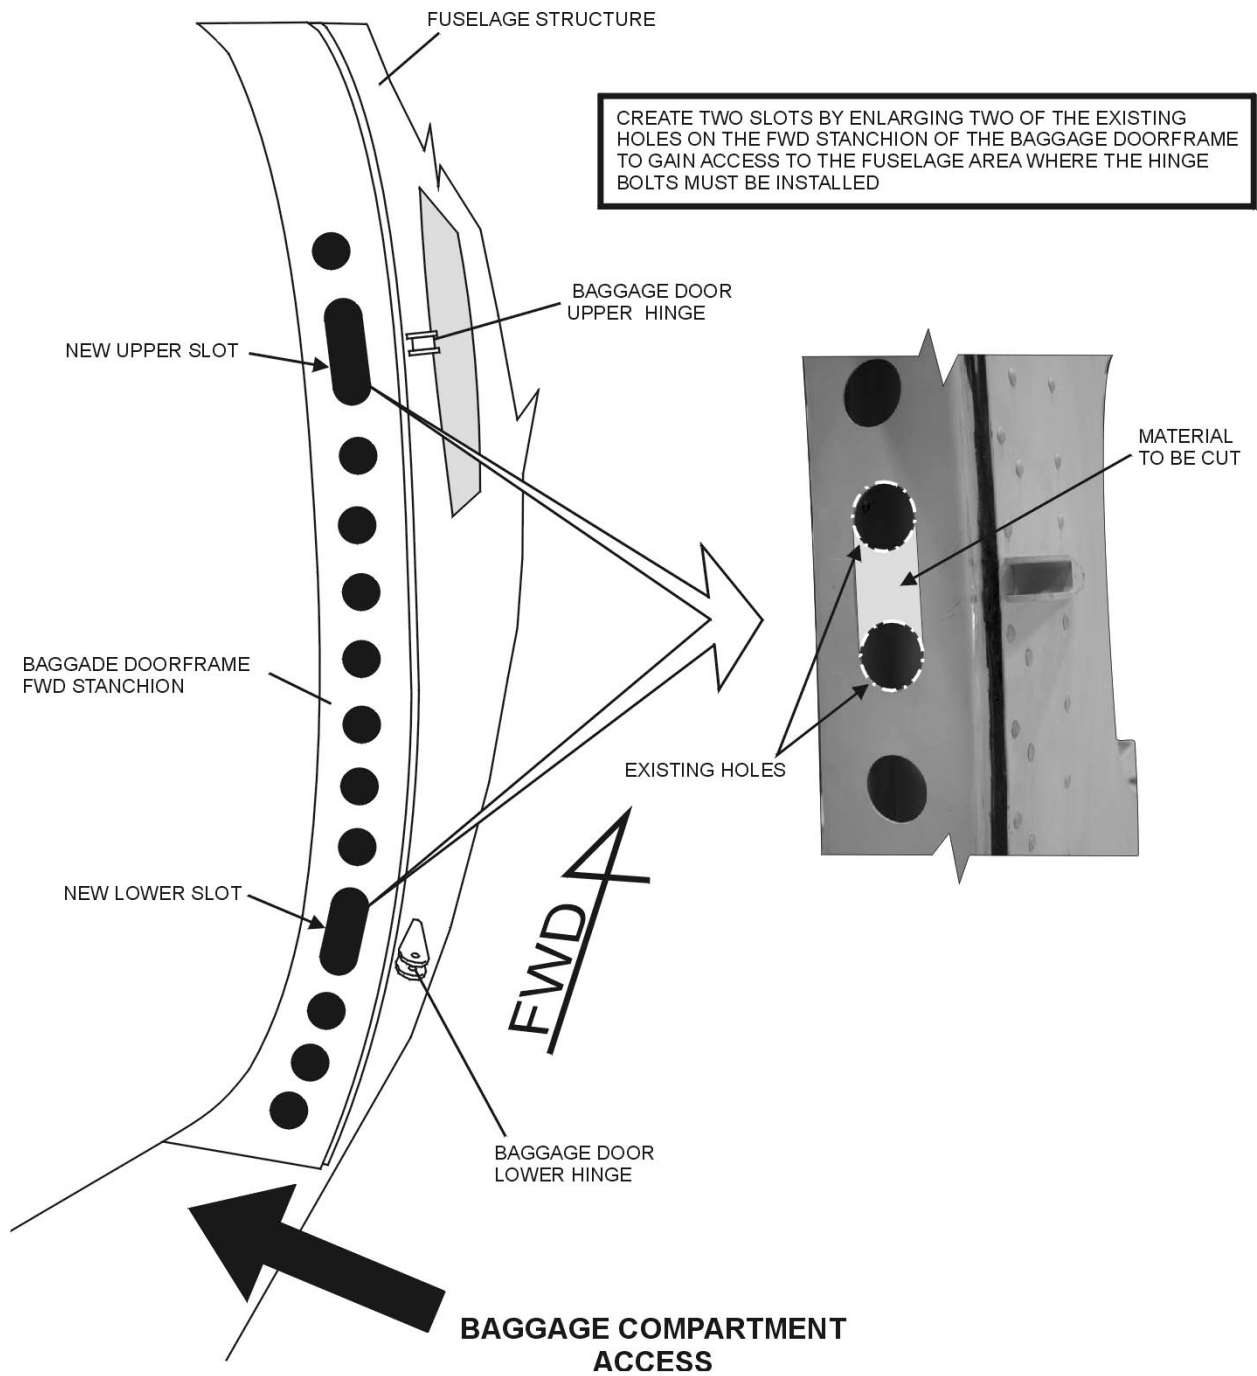

Fig. 3
3. Create two slots by enlarging two of the existing holes on the forward stanchion of the baggage compartment doorframe as indicated in fig. 3;